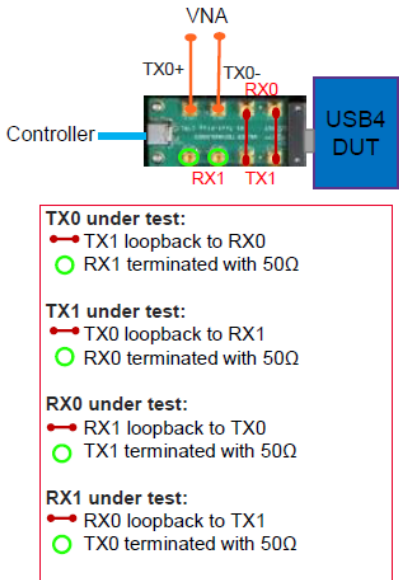

Figure 119 SMP test fixture - Tx/Rx lane switching
- 8 In case of SMP test fixture, Tx/Rx lane under test can be switched as shown in Figure 119.